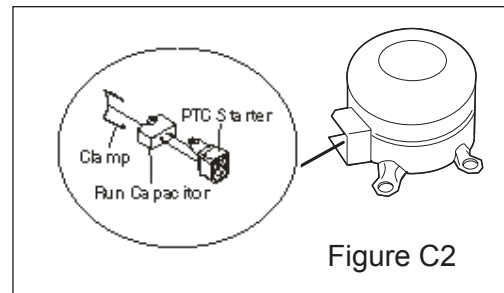

Figure C2
The solid state relay plugs directly onto the compressor start and run terminals. (See Figure C2.) Relay terminals 1, 2, and 5 are connected within the relay, as are terminals 3 and 6.
3. Remove relay assembly from compressor. (See Figure C2.)